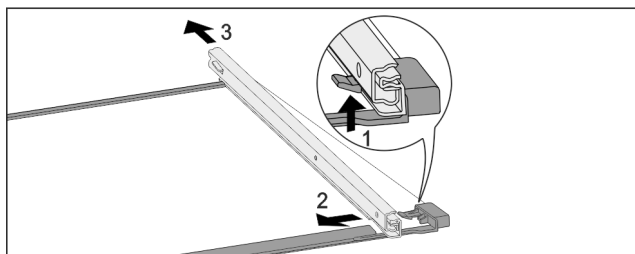

Fig. 265 Glass shelf with rails
- Push up front click-in hooks. Fig. 265 (1)
- Move the pull-out rails to the side Fig. 265 (2) and to the rear Fig. 265 (3).